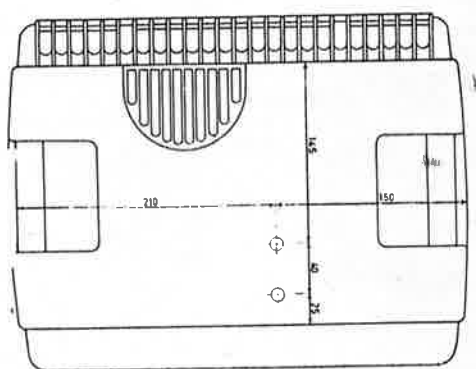

Fig. 8
- Drill two holes as indicated in fig. 8 into the upper part of the projector.